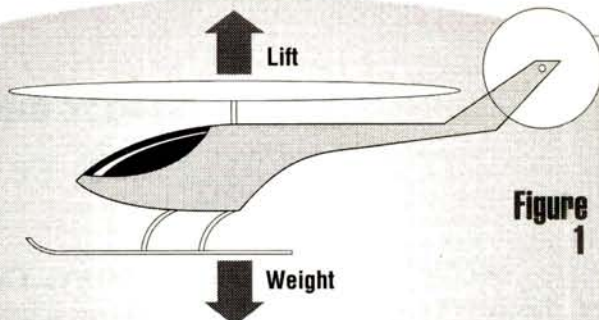

Figure 1
- In **Figure 1**, we see the left side of a helicopter in hover. The two forces present in this view are the thrust of the rotor blades going up and the weight of the helicopter going down. The weight counters the force of the blades. (Notice that we aren't considering the other forces on the helicopter that can't be seen in this view; they'll be covered later.)
In **Figure 1**, the weight is exactly countered by the main-rotor thrust, which is represented by the two arrows of the same length. This may seem like a pretty basic idea when the helicopter is straight and level, but suppose we try to get the helicopter off the ground into a hover, and the ground isn't perfectly level. (What flying field is?) In that case, the lift isn't going straight up to counter the weight. Instead, it's angled to one side or the other, depending on which way the ground/helicopter are leaning.